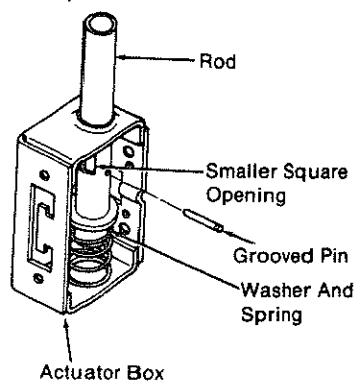

Fig. 24 - Building Left Foot Assembly
7. Put a *washer and spring* in place on the bottom of the *rod*, and then slide the *rod* all the way down. (Figure 24)